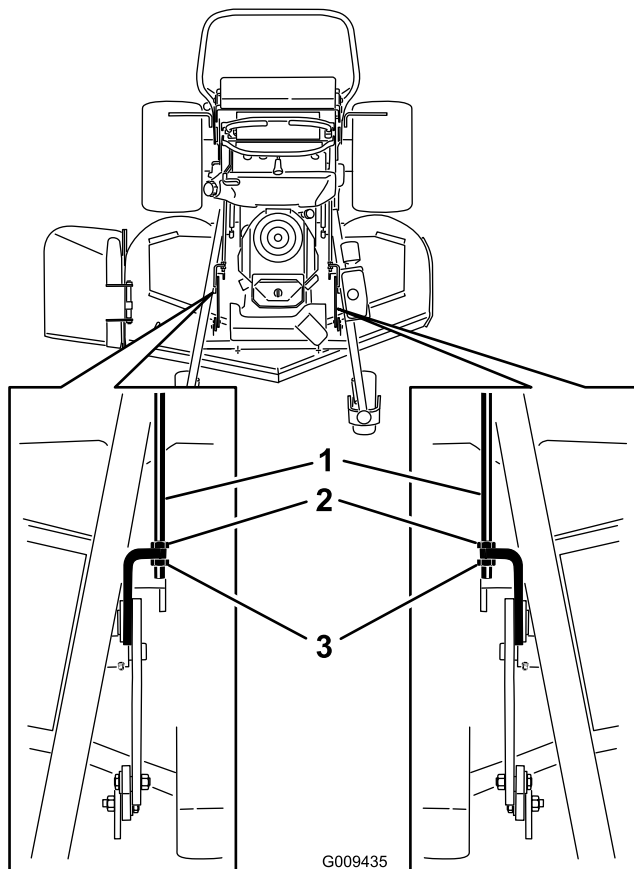

Figure 81
2. Loosen both the front and rear nuts on the adjustment rods (Figure 81).
3. The weight of the mower deck must be resting on all three of the 2x4's (Figure 81). The back lip of the mower deck is built a 1/4 inch (6mm) lower than the front lip of the mower deck.
6. If the dimensions are not correct, adjust the front and rear nuts on either side to get the correct front-to-rear pitch (Figure 81).